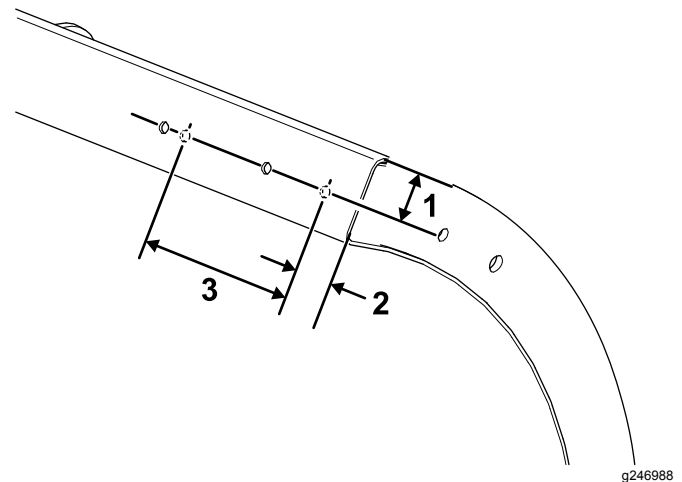

Figure 1
4. On the left side of the plow, drill a hole (7/16 inch) at the location shown in Figure 1.